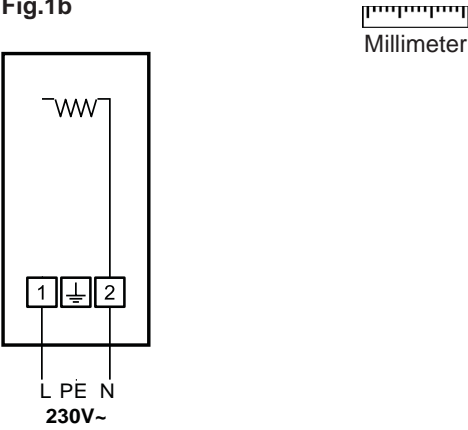
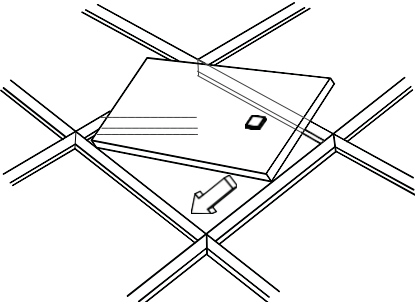

Fig.2
Fig.3
1. The Energocassette can be fitted into suspended ceilings with T-bars 15mm or 24mm, fig.2, or fixed onto the ceiling using the supplied H-bracket, fig.3.
2. When mounting onto the ceiling, secure the bracket first to the ceiling with three screws on each side with distances C/C1 and C/C2, see fig.3 and table. Insert the ENC into the H-bracket by hooking the fixings (B) into the fixing slots (A).
5. If the ENC is to be mounted with chains, wires, or rigid fixings use the 4 existing fixing brackets (B), as hanging points, see fig.3.